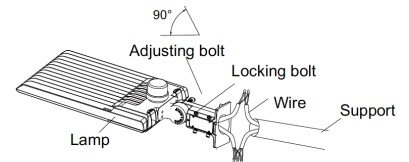

Fig. 14
3. Place the bracket into the pole and lock the four bolts. (Fig. 14) **Note:** Adjustable angle is 0-90°(Fig. 14)